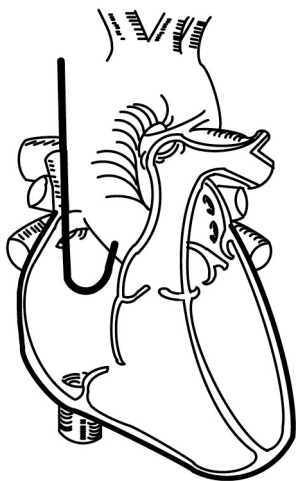

Figure 9. Atrial placement
4. Gently pull the lead/stylet combination at the venous entry site to ensure contact between the lead tip and the endocardium. A satisfactory position has the lead tip situated against the endocardium in the atrium (Figure 9 Atrial placement on page 19).